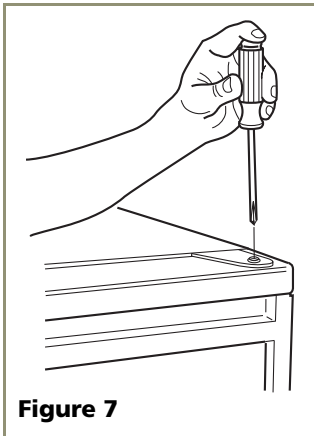

Figure 7
1. Remove top hinge screw pin from door (Phillips screwdriver) (see **Figure 7**). Remove door by tilting forward and lifting off bottom hinge pin.